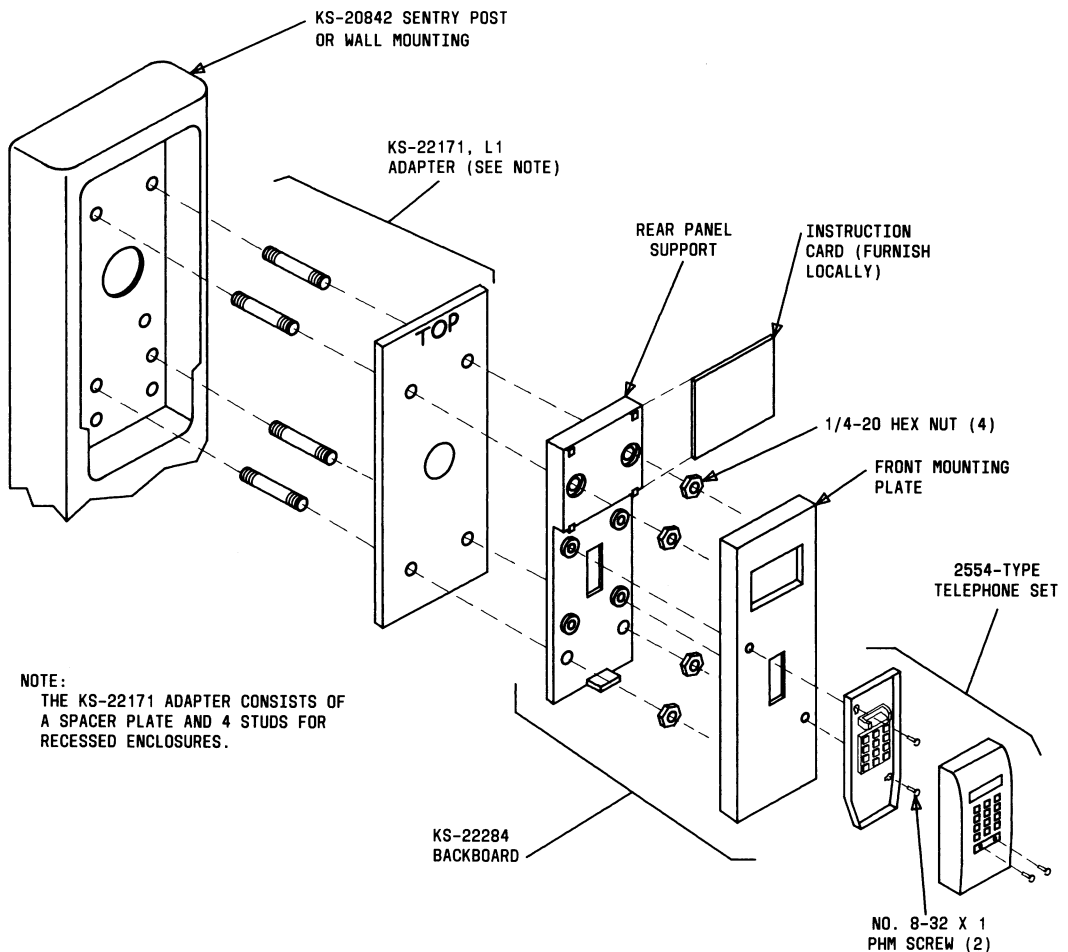

Fig. 10—KS-22284 Backboard and 2554-Type Telephone Set Used With Adapter
2.22 Any closure that will accept a 1-type coin telephone set will accept this backboard, however, when a recessed enclosure is encountered, such as the SENTRY mounting or wedge shelf, a KS-22171, List 1 adapter (Fig. 10) is required.
Note: For a recessed enclosure (SENTRY Mounting and Wedge Shelf) use a KS-22171, List 1 adapter (Fig. 10).
3.17 Place the front mounting panel over the rear panel support and install two No. 8-32 by 1 PHM screws furnished (Fig. 10). Do not tighten the two screws; they are also used to mount the base of the wall set.
D. 2554B-03 (MD), Modified 2554B-03 (MD), or Modified 2554BMP-03 Telephone Set